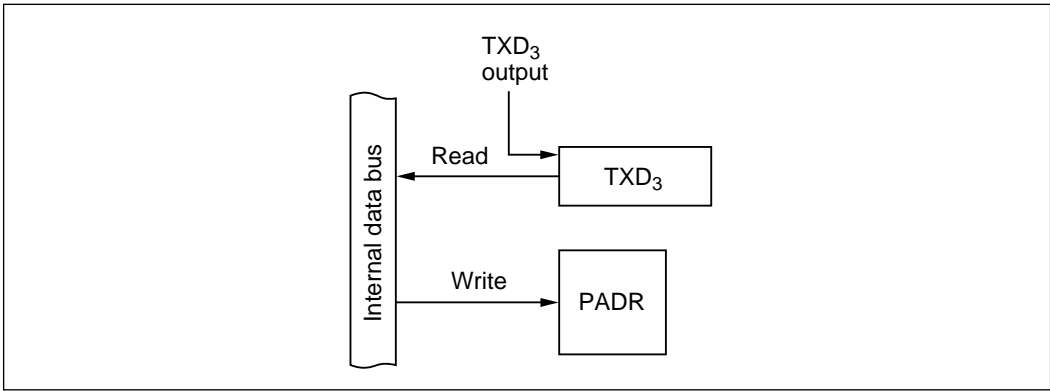

Figure 10-70 TXD₃ Output (Modes 1, 2, 4, 6, and 7)
(8) **TXD₃ Output (PA₆: Modes 1, 2, 4, 6, and 7):** Figure 10-70 shows a block diagram illustrating the TXD₃ output function. Table 10-53 indicates register read/write data. When PA₆ is used for TXD₃ output, the value written in PADR is ignored, but PADR can be read to monitor the level at the TXD₃ pin.